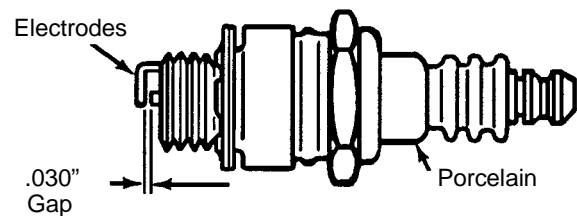

Figure 8
- Replace the spark plug if electrodes are pitted, burned, or the porcelain is cracked. See Figure 8.